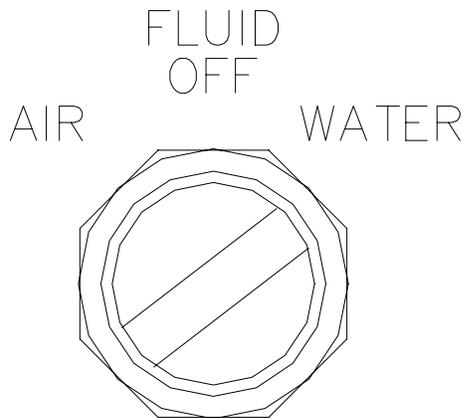

Figure 18: Fluid Selection Switch for Water Tests
7. Turn the fluid actuation switch to water (see Figure 18).